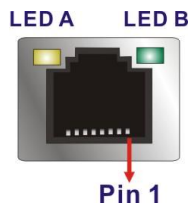

Figure 3-24: LAN Connector
- CN Pinouts:** See **Figure 3-24** and **Table 3-23**